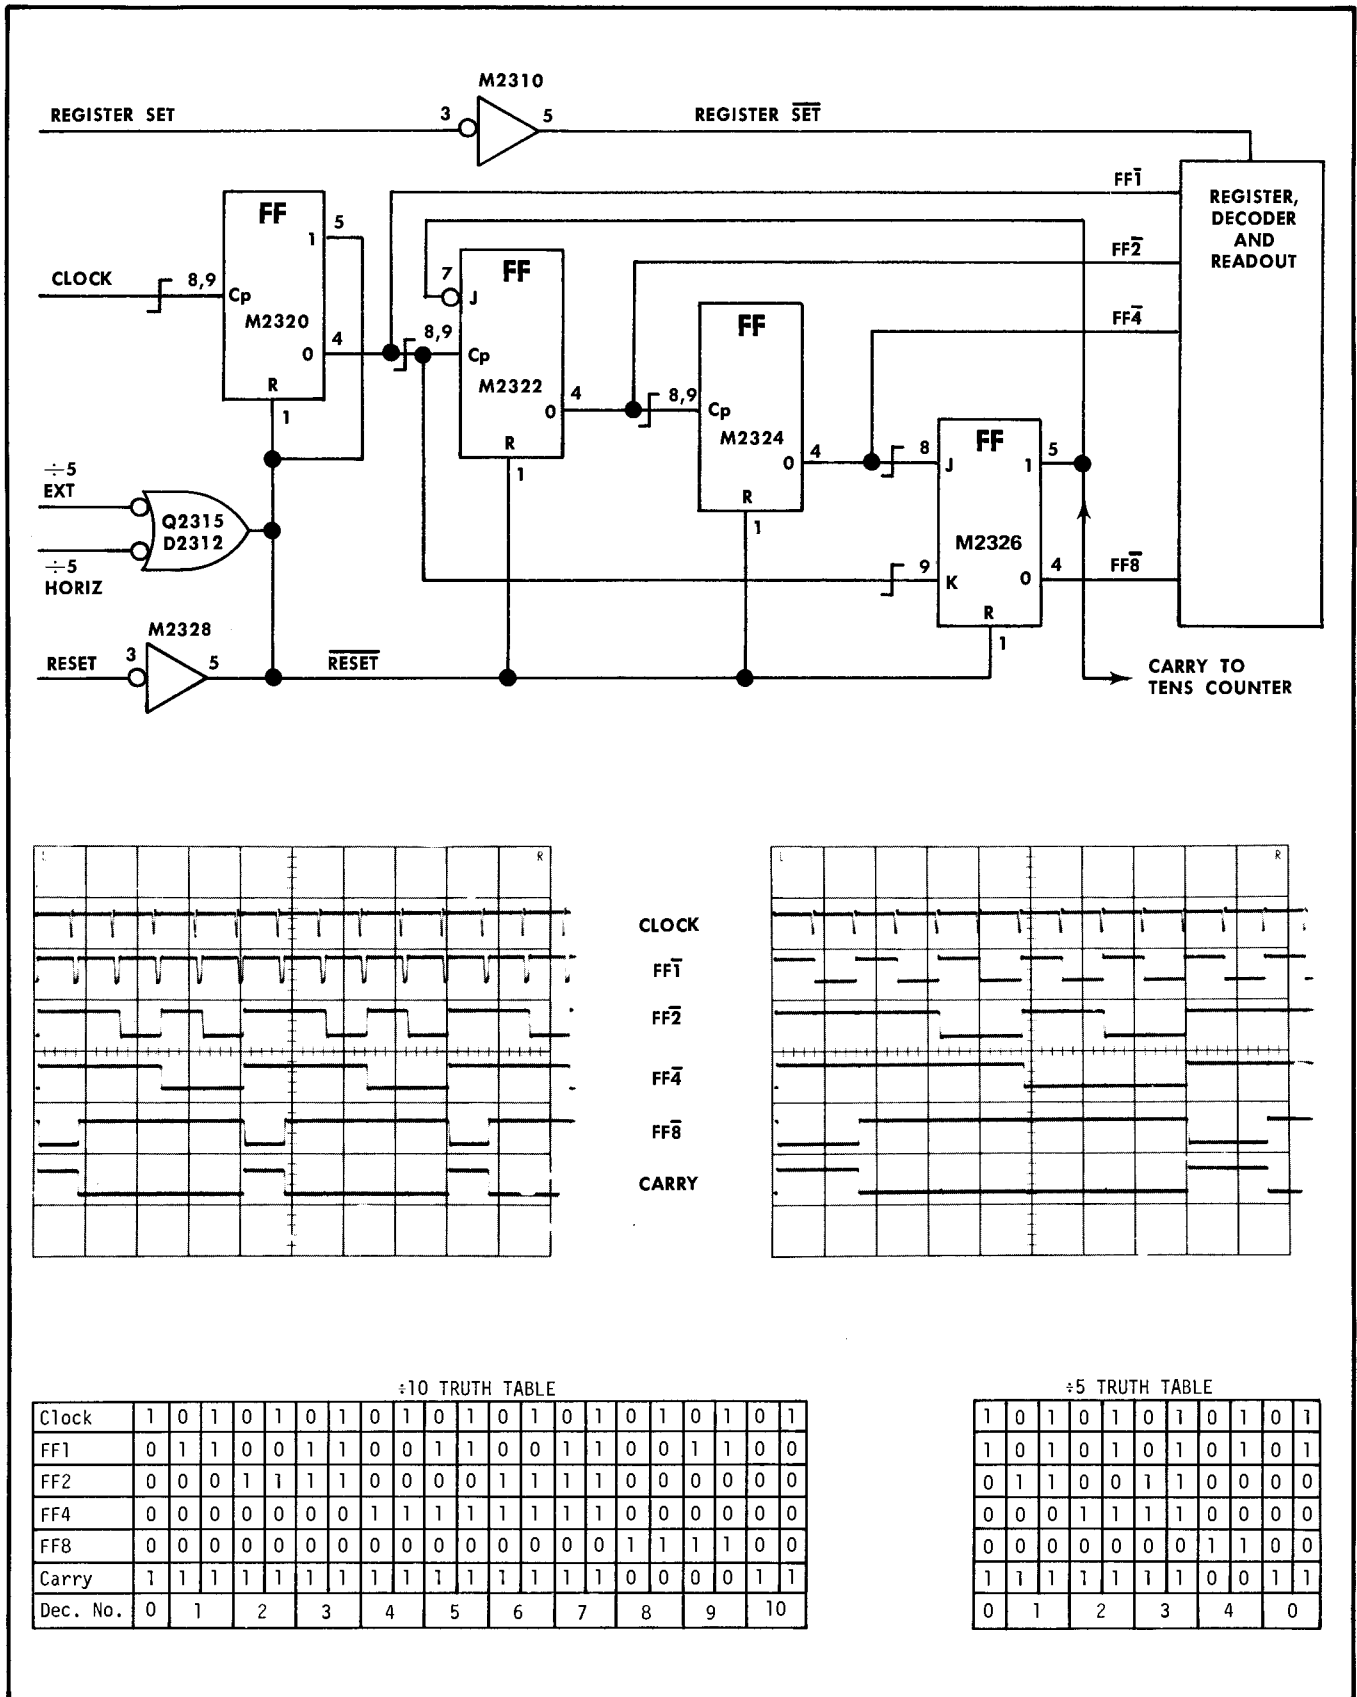

Fig. 4-38. One's Counter.
Ones Counter. The Ones Counter (see Fig. 4-38) is made up of four flipflops (M2320, M2322, M2324, and M2326), the first three of which normally operate as "T" flipflops. The ones counter is basically a binary ripple-through BCD counter. The flipflops switch on the positive-going edge of the CLOCK pulse input. The RESET pulse, applied between measurements, resets all the counters to zero prior to the start of a count.
With the flipflops reset to zero, the first CLOCK pulse applied to the Cp input of M2320 sets the flipflop to 1 (the output on pin 4 goes low). The output on pin 4 is applied to the pins 8 and 9 of M2322 (Cp) and to pin 9 (K) of M2326. Since the flipflops switch only on the positive-going transition of a pulse, M2322 and M2326 do not reset. The count in the ones counter is now 0-0-0-1. (See the truth table in Fig. 4-38).